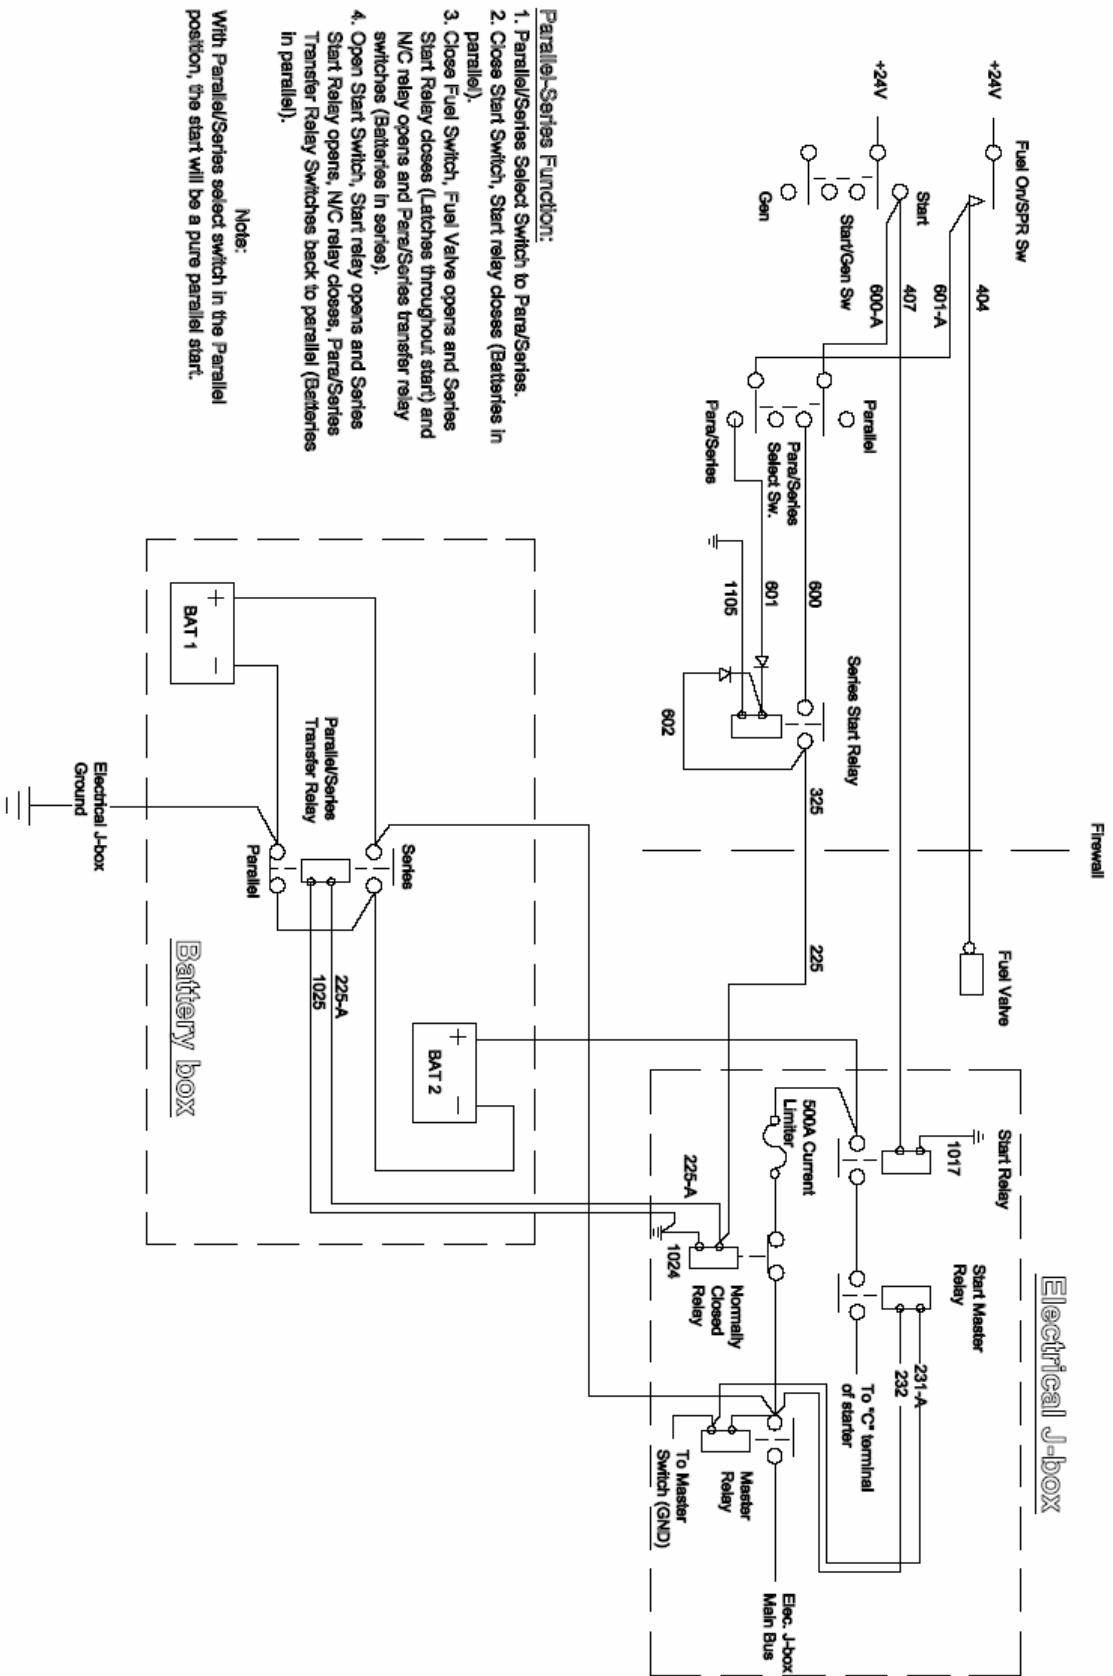

Figure 5
30. Remove wires 325 and 1105 from the battery master switch and cut the ring terminals off to facilitate removal from the engine instrument panel harness. Route the wires over to the Series Start Relay that was just installed. Connect wires 325 and 1105 to the appropriate marked wires of the series relay using the spade terminals provided in the kit (see figure 5).
31. Fabricate and install wire 600-A (MS22759/16-18-9) on the START/GEN switch on the same post as wire 407 using a #8 ring terminal. Route the wire along the existing harness to the Para/Series Toggle Switch and attach it to the appropriately marked terminal of the switch. (see fig. 5)
32. Fabricate and install wire 601-A (MS22759/16-18-9) on the FUEL ON/SPR switch on the same post as wire 404 using a #8 ring terminal. Route the wire along the existing harness to the Para/Series Toggle Switch and attach it to the appropriately marked terminal of the switch. (see fig. 5)
33. Fabricate wires 600 and 601 using wire (MS22759/16-18-9) and using #8 ring terminals, run them between the Para/Series Switch and the Series Start Relay and attach to appropriately marked leads or terminals. (see figure 5)